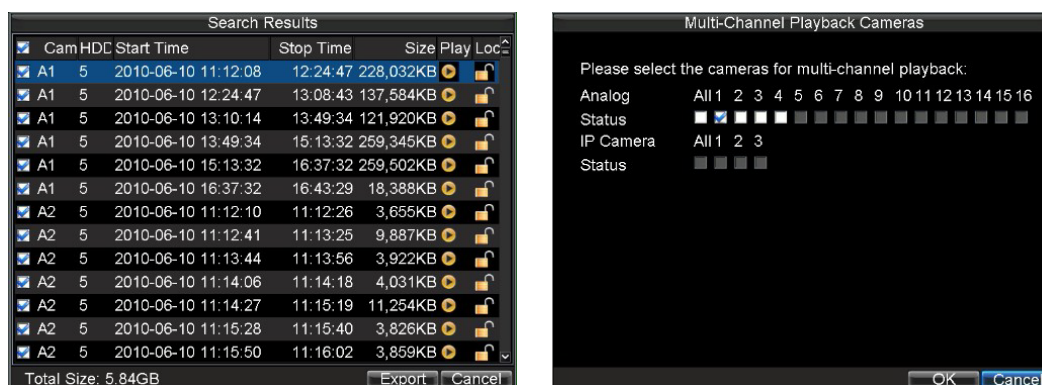

Figure 4. File and Channel Selection Menu
- Click the Play button to start playback of all the files found with the specified search criteria or click the Search button to bring up the list of search results. After search results are presented, you can press play icon to enter multi-channel playback cameras selection, show in Figure 4.